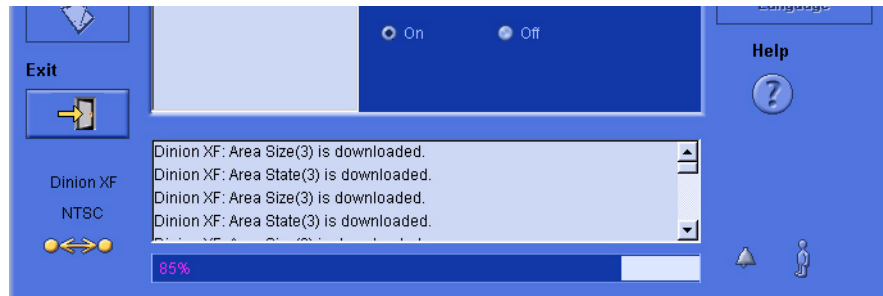

Figure 5.10 Progress bar indicator
4. Click **Yes** to begin uploading the settings. Depending on the number of configuration changes made, a progress bar is displayed at the bottom of the window to indicate the progress status of the operation (see *Figure 5.10*).